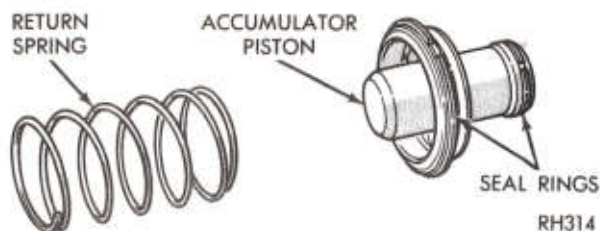

Fig. 50—Accumulator Piston and Spring
(4) Install accumulator piston in the transmission case (Fig. 50).
(5) Place valve body in position, working park rod through opening and past sprag. Install retaining bolts finger tight.
(7) With neutral-starting switch installed, place manual lever in the neutral position. Shift valve body, if necessary, to center neutral finger over the neutral switch plunger. Snug bolts down evenly, then tighten to 105 in. lbs. (12 N·m).
(8) Connect lock-up solenoid wire to wiring connector at rear of transmission case, if so equipped.
(9) Install gearshift lever and tighten clamp bolt. Check lever shaft for binding in the case by moving lever through all detent positions. If binding exists, loosen valve body bolts and realign.
(10) Make sure throttle shaft seal is in place, then install flat washer and throttle lever and tighten the clamp bolt.
(11) Position the round magnet over the bump in the front, right hand corner of the oil pan.
(12) Install oil pan, and a new gasket.